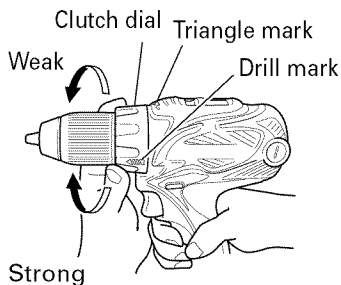

Fig. 6
5. Confirm the clutch dial position (See Fig. 6)
(2) Tightening torque indication (See Fig. 6)
(3) Adjusting the tightening torque (See Fig. 6)